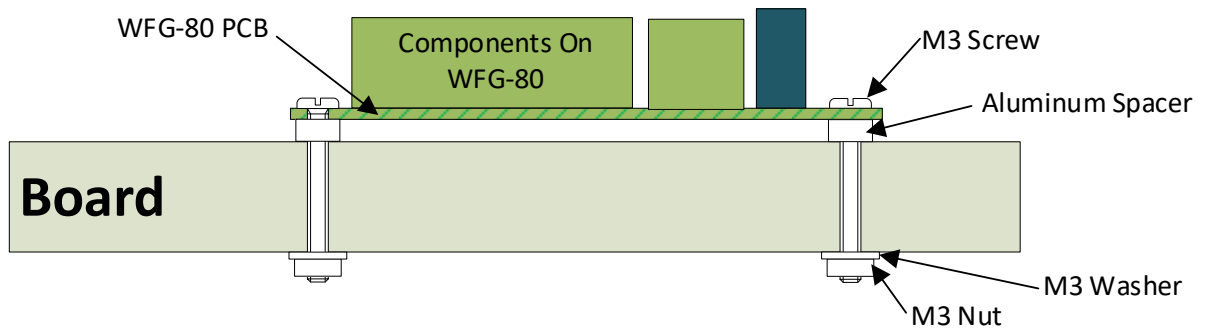

Figure 6 Mounting Suggestion
- (6) Mount the unit to your baseboard using the four M3 metric screws, nuts and spacers provided. Mount the unit on a suitable piece of board, either your baseboard (top or bottom) or a separate board perhaps at the front of your model railroad. The component side of the module should face away from the board as in Figure 6. If you omit the spacers be sure not to tighten screws so that the unit bends. Take care that no part of the unit touches any metal as this may cause a short circuit and result in permanent damage. Do not mechanically stress or bend the module as this may cause permanent damage. **Take care to ensure that there is adequate ventilation to avoid overheating.**
- (7) Turn on the power. You may test the unit using the Tower Operator App. Refer to the Tower Operator Quick Start, or Full Help Pages for instructions on setting up a schematic control panel on your Windows or Android computer or tablet.